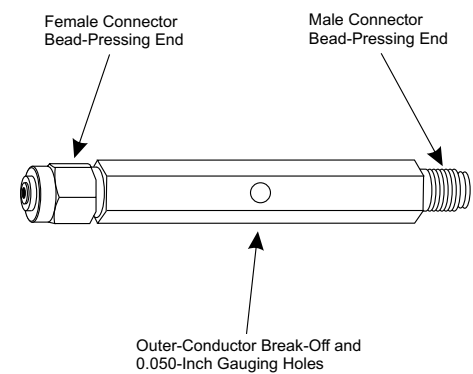

Figure 2. Multipurpose Tool
- Connect the male connector bead-pressing end of the multipurpose tool (Figure 2) to the coupling nut on the K101M connector.